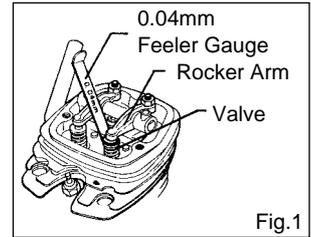

Fig.1
3. The standard valve clearance, on both inlet and exhaust valves, is between 0.04mm and 0.10mm (0.0015-0.004 inch), measured between valve stem and rocker arm. Use the 0.04mm and 0.10mm feeler gauges to check clearances. (See Fig.1.)